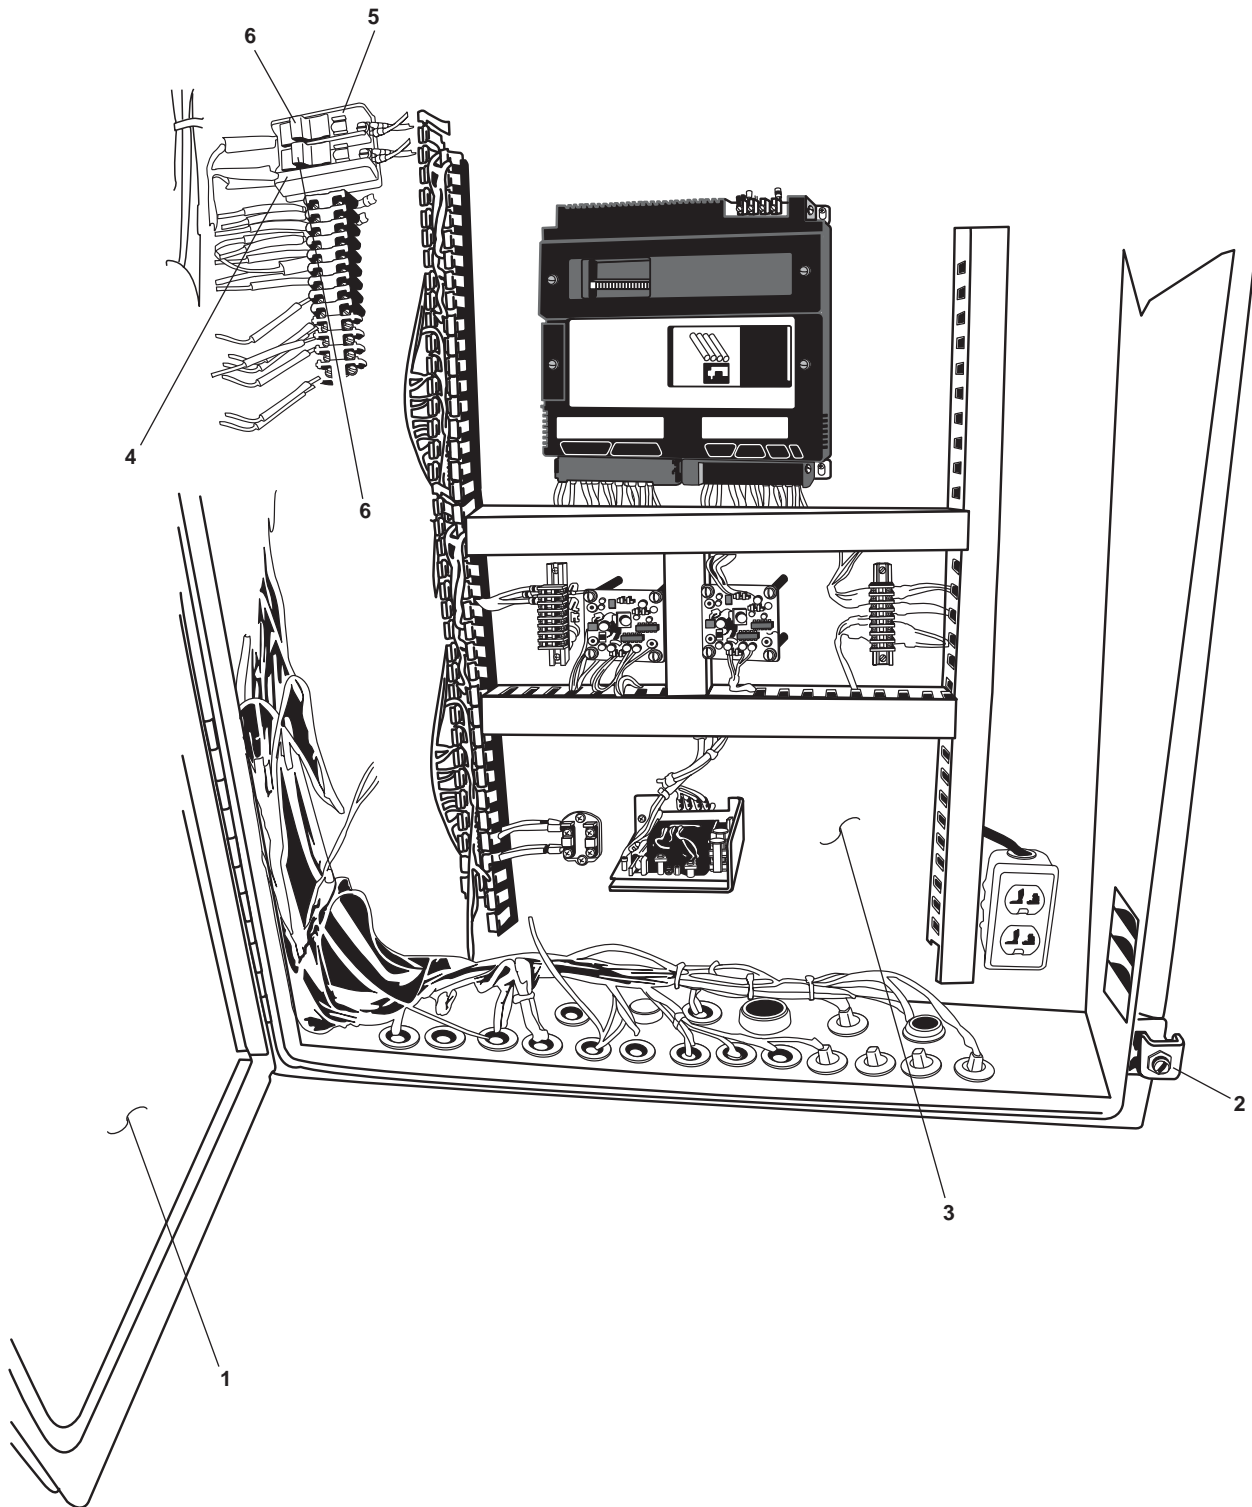

Figure 1. Towing Machine Control Panel
1. Open the control panel door (figure 1, item 1) by loosening the two locking clamps (figure 1, item 2).
2. Use a multimeter to check the control panel (figure 1, item 3) for voltage at the fuse block (figure 1, item 4). If voltage is present, secure the proper circuit breaker and ensure that it is locked out and tagged out (FM 55-502) and then continue with the procedure. If there is no voltage present, continue with the procedure.
3. Remove the fuses (figure 1, item 5) from the fuse block (figure 1, item 4) by pulling straight out on the fuse holders (figure 1, item 6).
4. Remove the fuses (figure 1, item 5) from the fuse holder (figure 1, item 6).
1. Install the fuses (figure 1, item 5) in the fuse holders (figure 1, item 6).
2. Install each fuse (figure 1, item 5) in the fuse block (figure 1, item 4) by holding the fuse holder (figure 1, item 6) and pushing it straight in the fuse block.
3. Close the control panel door (figure 1, item 1) and tighten the two locking clamps (figure 1, item 2).